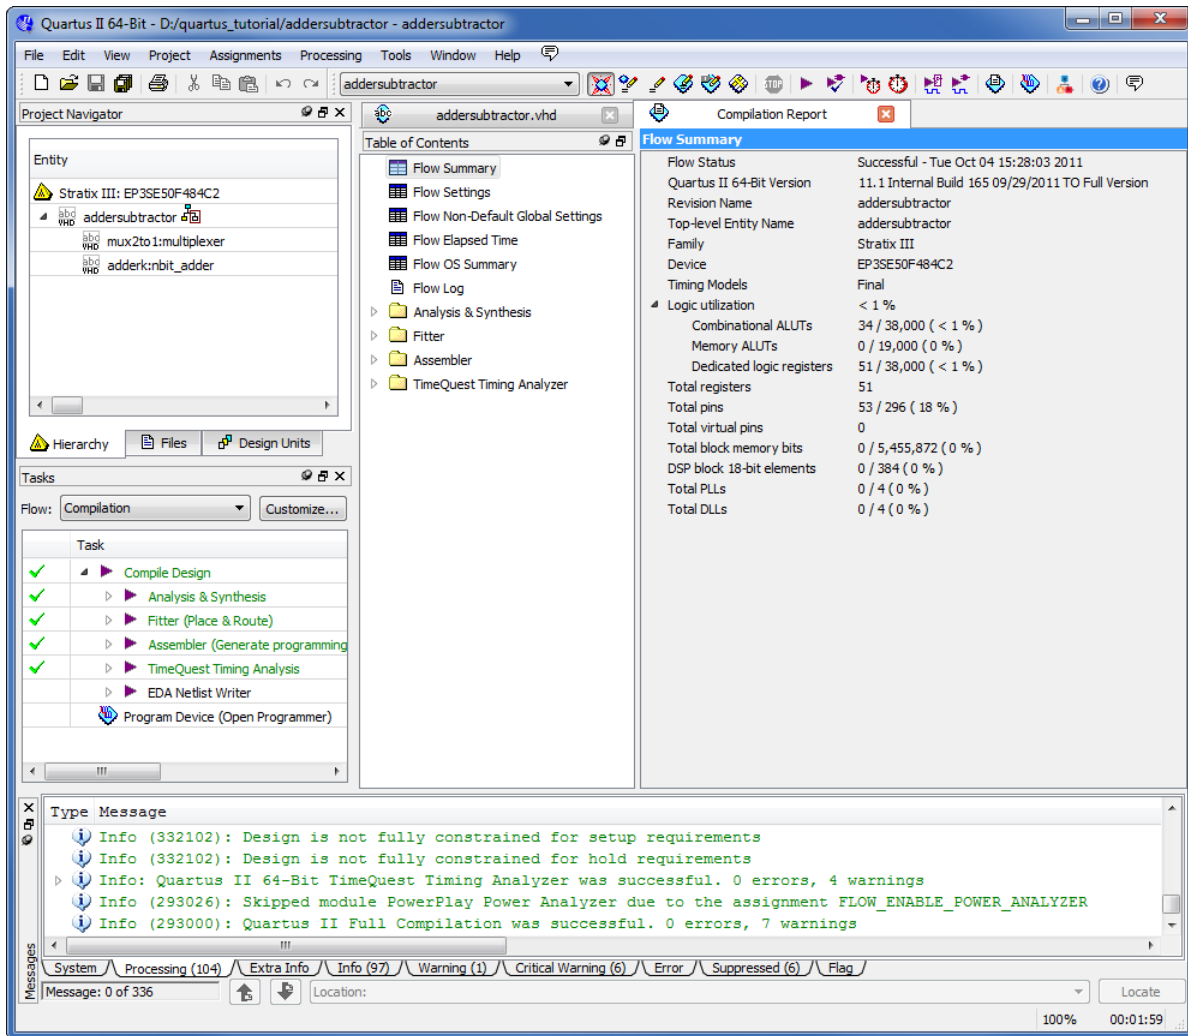

Figure 19: Display after a successful compilation.
1. Run the Compiler by selecting **Processing > Start Compilation**, or by using the toolbar icon . As the compilation moves through various stages, its progress is reported in the Tasks window on the left side. This window also provides a comprehensive interface to edit, start, and monitor different stages of the compilation. Successful (or unsuccessful) compilation is indicated in a pop-up box. Acknowledge it by clicking OK. This leads to the Quartus® II display in Figure 19, in which we have expanded the Entity hierarchy in the top left corner to show all entities in the *addersubtractor* design. In the message window, located at the bottom of the display, various messages are shown. In case of errors, there will be appropriate messages given.